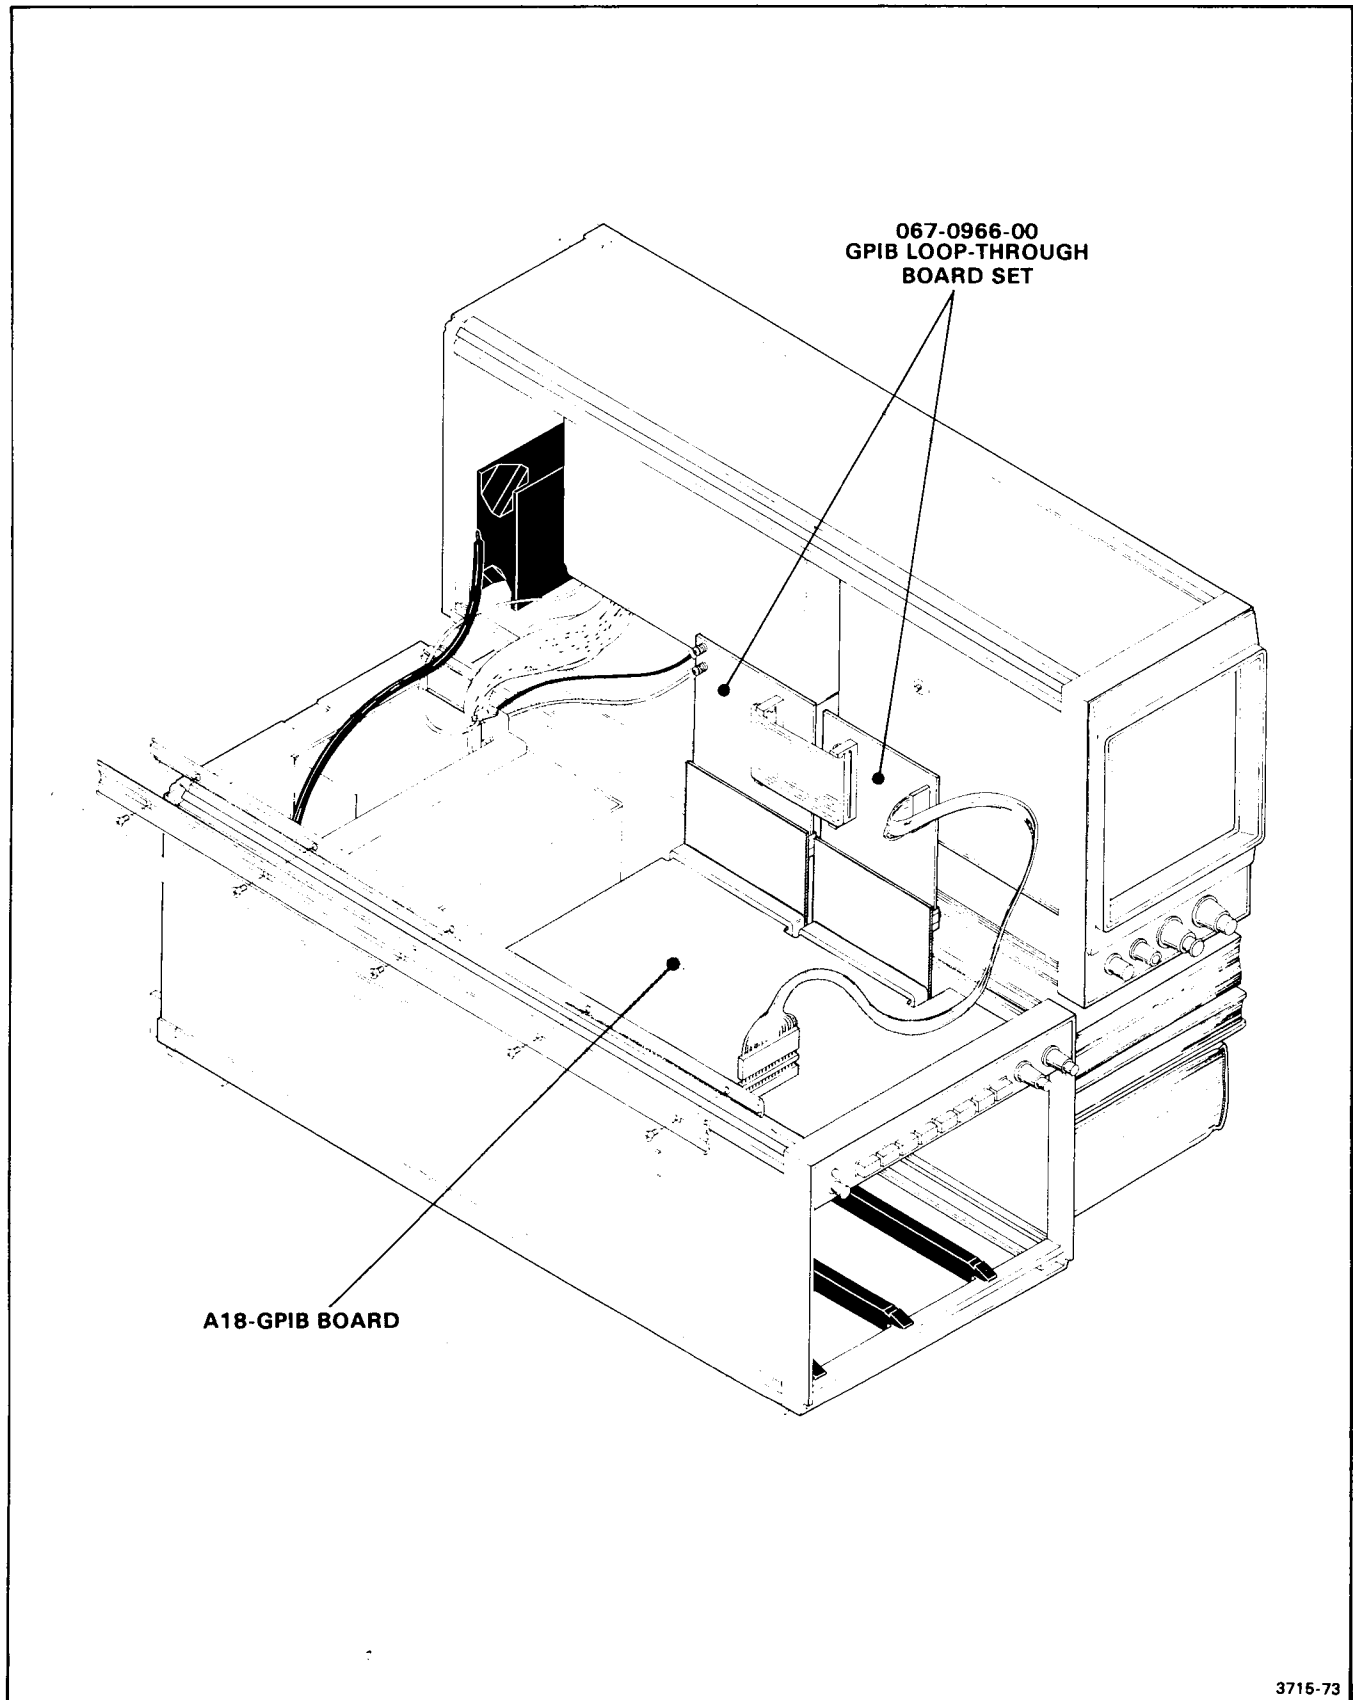

Figure 5-8. GPIB Loop-Through board installed.
12. Install the GPIB Loop-Through board into the extender boards as shown in Figure 5-8.